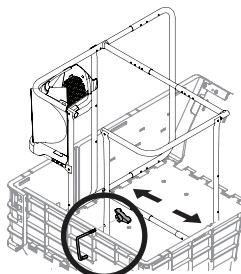

Figure 12
2. Adjust frame as necessary to fit width of cart by depressing spring buttons on adjustor tubes to adjust the width and length of the frame, making sure the spring buttons snap into place. See Figure 12.
4. Use hook assembly to secure frame to the cart by inserting the threaded arm of the hook assembly through the left front side of the frame, adjust the capped end of the hook assembly to rest against the outside wall of the cart and secure with one wing knob, as shown in Figure 12.